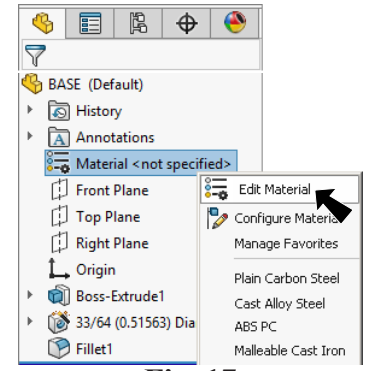

Fig. 17
Step 1. **Right click** **Material**  in the Feature Manager and click **Edit Material**, **Fig. 17**.